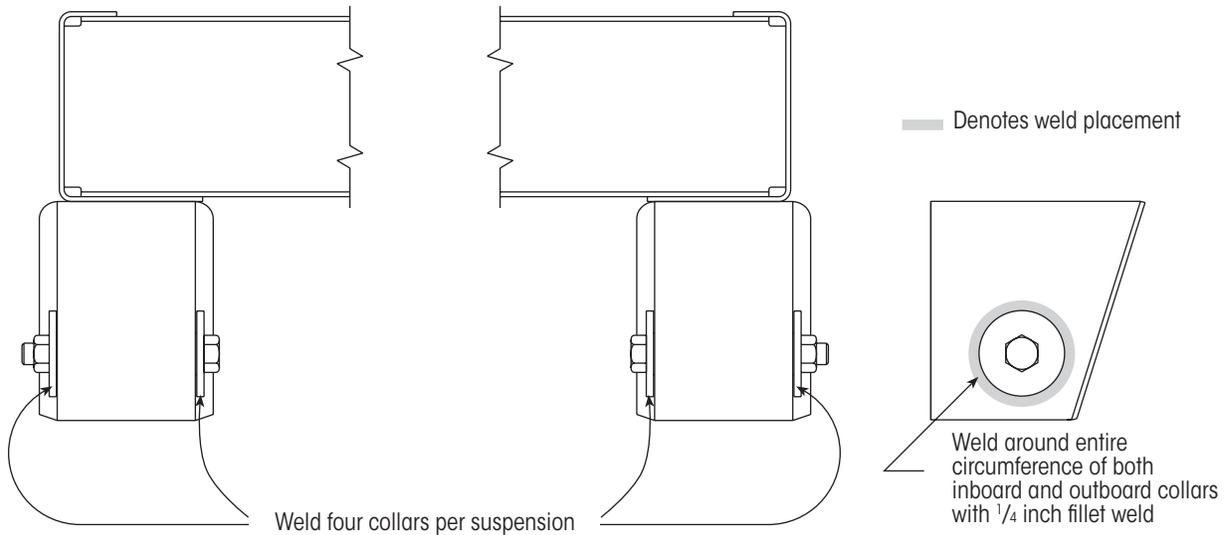

Figure 26: Welding locations on welded collars
7. **Weld** around the inboard and outboard collars on each end of the axle with a $\frac{1}{4}$ inch fillet weld (Figure 26).